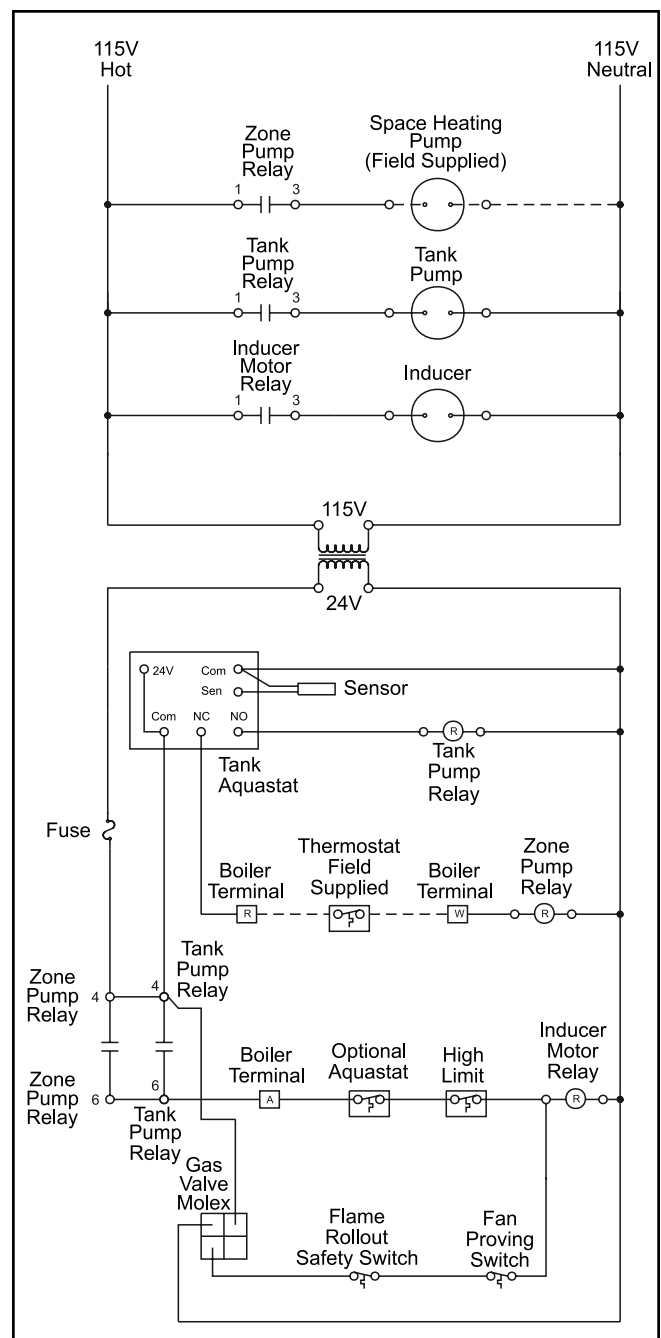

Figure 5. MCH Schematic.
Electrical Connection (see Figures 5 and 6).
3. Follow the schematics in Figures 5 and 6. Remove the wire nut from the two black wires, and connect the hot lead from a 115 volt power supply to both wires. Secure the three wires in the wire nut.